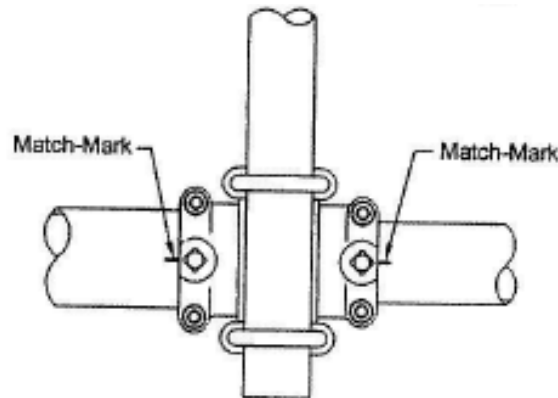

Figure 10: Match-Marked Hinge Clamp and Pipe
- Adjust “lead” by elevating the Blade slightly - **Figure 10**.